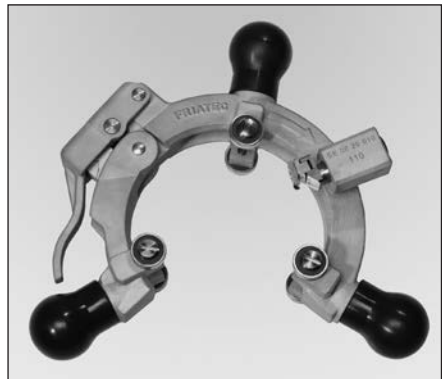

Fig. 5
*Dimension-dependent units for the processing of pipe ends and saddle fusion areas (Fig. 5)